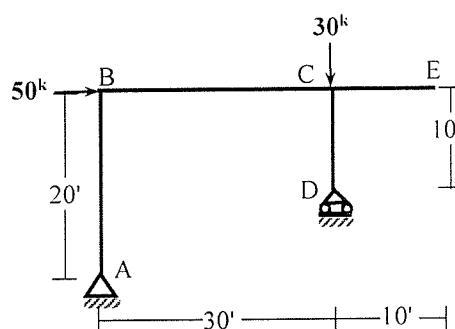

Fig.2
- Using Virtual Work Method analyze the frame shown in **Fig.2** to calculate the horizontal deflection at **D** ($E = \text{constant}$, $I_{AB} = I_{CD} = I$ and $I_{BC} = 2I$). [12]